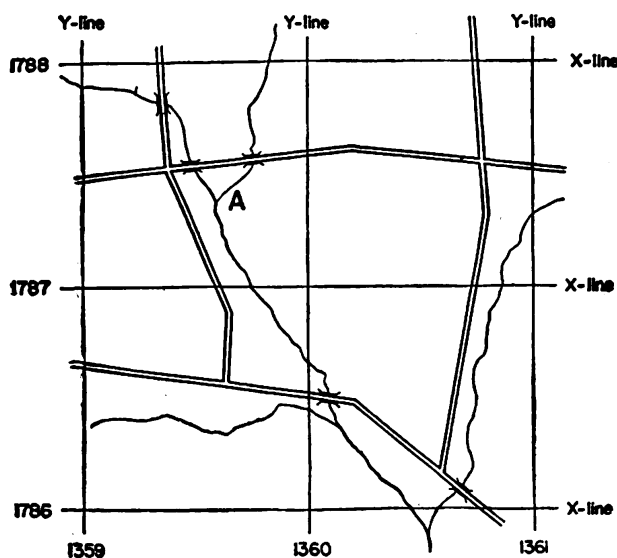

FIGURE 150.—Rectangular coordinates. A 1,000-yard grid printed upon a terrain map (1 : 20,000 scale). (Not reproduced to scale.)
149. Location of position by coordinates.—*Q.* How are military maps divided? *A.* Into squares 1,000 yards on a side by two sets of parallel lines, one of these sets being at right angles to the other. (See fig. 150.)
A. The country is divided into zones running north and south, each covering 9° of latitude. The central true meridians of adjacent zones are 8° apart, hence there is an overlap of 1° at the boundaries, included in both adjacent zones. The west longitudes of the central meridians of the zones are 73° , 81° , 89° , 97° , 105° , 113° , and 121° . In each zone the Y lines are all parallel to the central true meridian. The direction of the Y line at any point is called grid north; it is the same as true north only at the center of the zone. The X lines are perpendicular to the Y lines, and so they are true east and west lines only at the center of the zone. In each zone the origin of coordinates, or zero point, is to the west and south of the zone, and hence all coordinates are positive. (See fig. 150.)